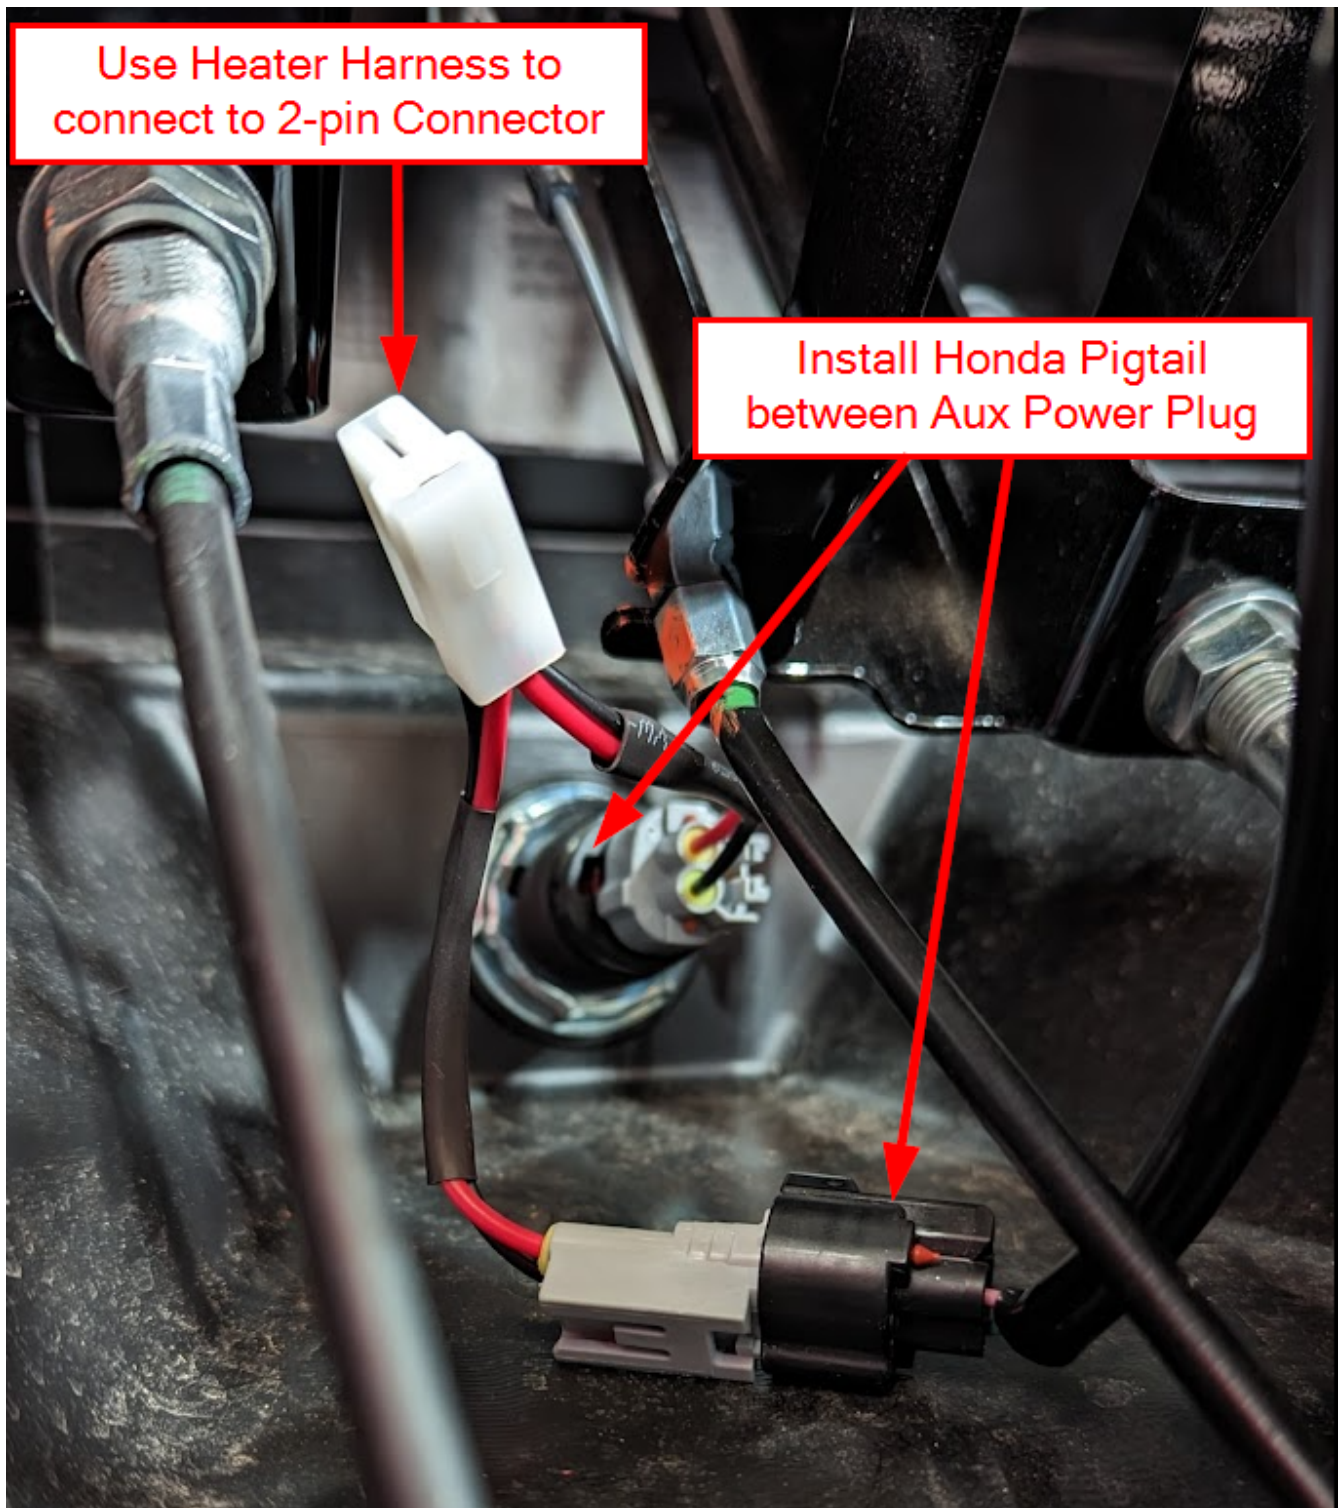

Figure 21
- a. Disconnect the Cigarette Lighter Connector. Locate the included wiring harness, using the included Insulation Displacement Crimps, connect the Blue Heater Power Wire to the Pink Cigarette Lighter Wire as shown in Figure 21. Connect the Black Heater Ground Wire to the Green Cigarette Lighter Wire as shown in Figure 21. Reconnect the Cigarette Lighter Connector.